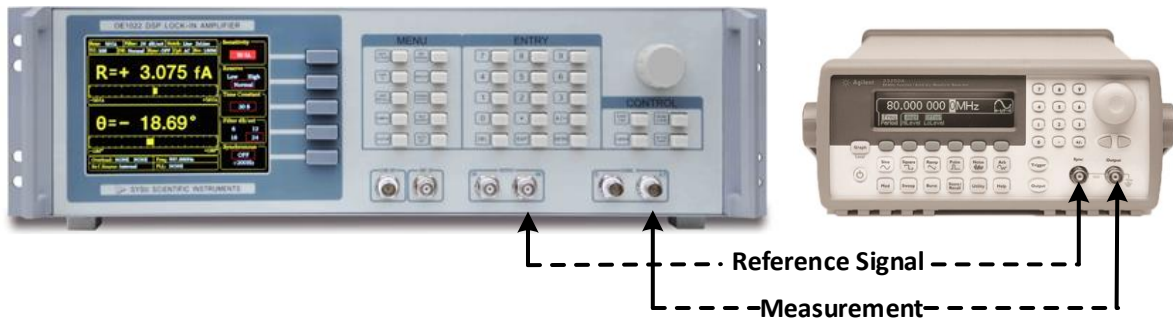

Fig.94 Signal Cable Connect Diagram
2. Use a BNC cable to connect the output of the function signal generator and the A/I input of the OE2031. Use another BNC cable to connect the reference signal of the function signal generator and the REF IN of OE2031, as is shown in Fig.94.